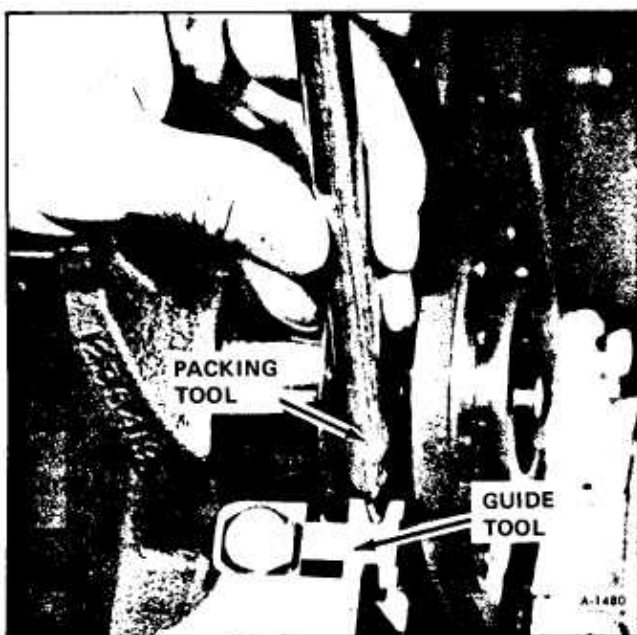

Figure 69—Packing Seal Into Guide and Cylinder Block
6. Work these two pieces of seal into the cylinder block (one piece on each side) with two small screwdrivers. Use guide tool J-21526-1 as shown in Figure 68. Using packing tool, pack these short pieces up into the block. See Figure 69.